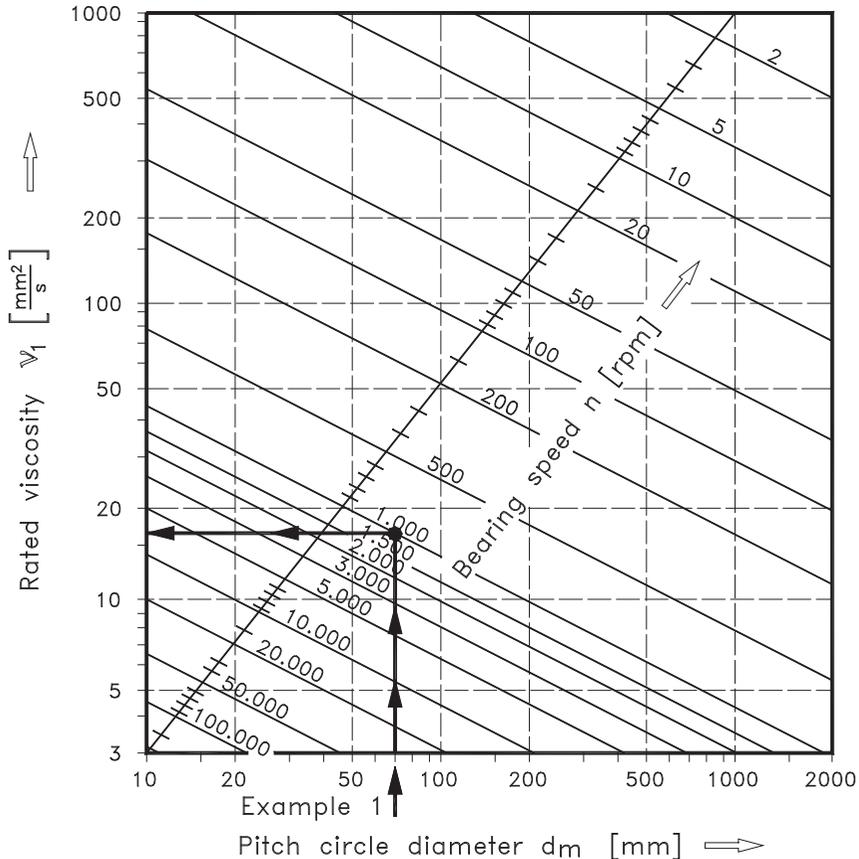

Fig. 6.9
**Step 2:** Strike a line in the diagram fig. 6.9 from the X-axis starting at a pitch diameter of **dm = 70 mm** (see arrows). Go straight upwards until the line crosses the required speed, in this example the line of **1000 rpm**. From this cross point go straight to the scale located at the left diagram border where the **(required) rated viscosity v1** for the individual operating conditions can be found. In the actual example v1 amounts to approximate **16 mm2 / s**.
(see evaluation in fig. 6.9)